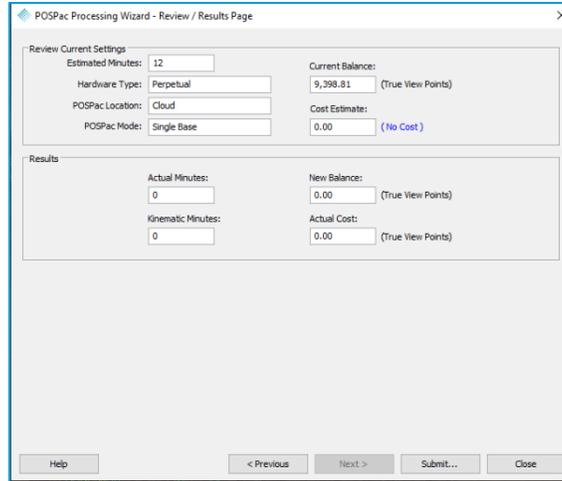

Figure 55 – Processing Confirmation
6. The **Processing Confirmation** page contains information about the sensor and processing times. The bullets below correspond to Figure 55.